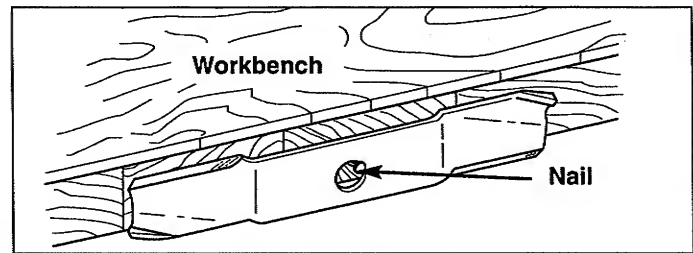

Figure 40. Balancing The Blade
5. Balance the blade as shown in Figure 40. Center the blade's hole on a nail lubricated with a drop of oil. A balanced blade will remain level.